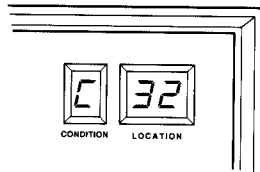

Figure 21. Display in Verify Mode (Confirm on Channel 32)
2. While the SS-32T is still in the verify mode, trigger a test transmission from each transmitter. If the transmitter is within radio range the SS-32T will replace that transmitter's zone number on the condition display with a "C" for "checked" (see Figure 21). If the transmitter is out of radio range, no "C" will appear. If the transmitter does not range check from the desired location, either experiment by moving the transmitter to different areas and testing, or use the Linear Model 76 Tuning Meter to make field strength measurements at the receiver to determine the best possible location for the transmitter.